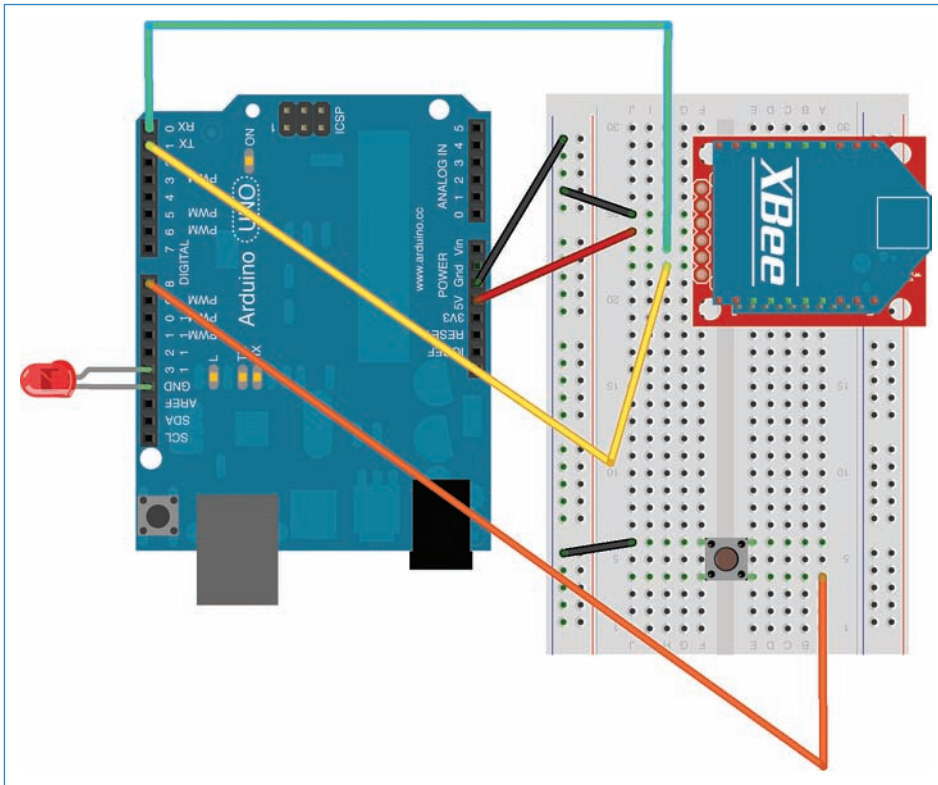

FIGURE 4.6 This diagram shows you how to create these XBee test modules.
- 3. Attach to breadboards**—Plug the breakout boards and XBees into the breadboards. You can see where to place it in Figure 4.6.
- 4. Attach the pushbuttons, LEDs, and jumpers**—Attach these items as follows (also shown in Figure 4.6):